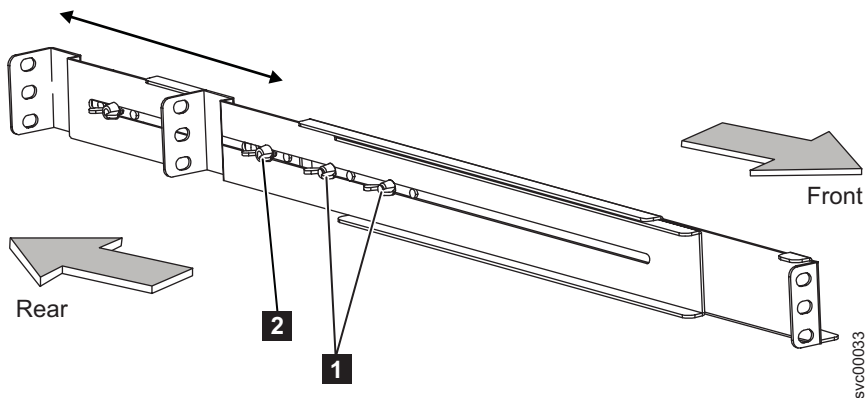

Figure 9. Adjusting the rail depth on the 2145 UPS-1U
4. Loosen the assembly wing nuts (**1** in Figure 9) on both rail assemblies and adjust the rail size to the depth of your rack. After you adjust the depth, tighten the assembly wing nuts as much as possible while still allowing some movement.